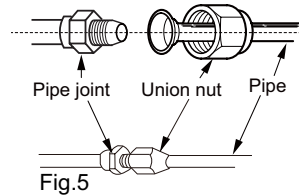
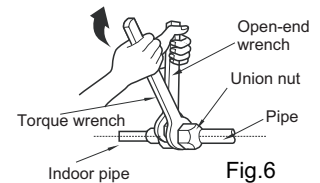

Fig.5
Fig.6
- (1) Aim the pipe joint at the corresponding bellmouth. (As shown in Fig. 5)
- (2) Pretighten the union nut with hand.
- (3) Adjust the torque force by referring to the following sheet. Place the open-end wrench on the pipe joint and place the torque wrench on the union nut. Tighten the union nut with torque wrench. (As shown in Fig. 6)